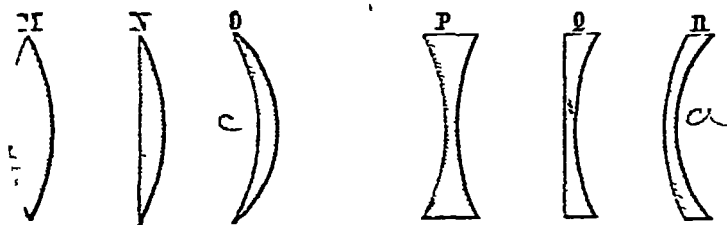

FIG 100.
The names given to the lenses (fig 100) are (v) Double convex—both surfaces convex, (N) Plano-convex—one surface convex, one plane (o) Concavo-convex converging—one